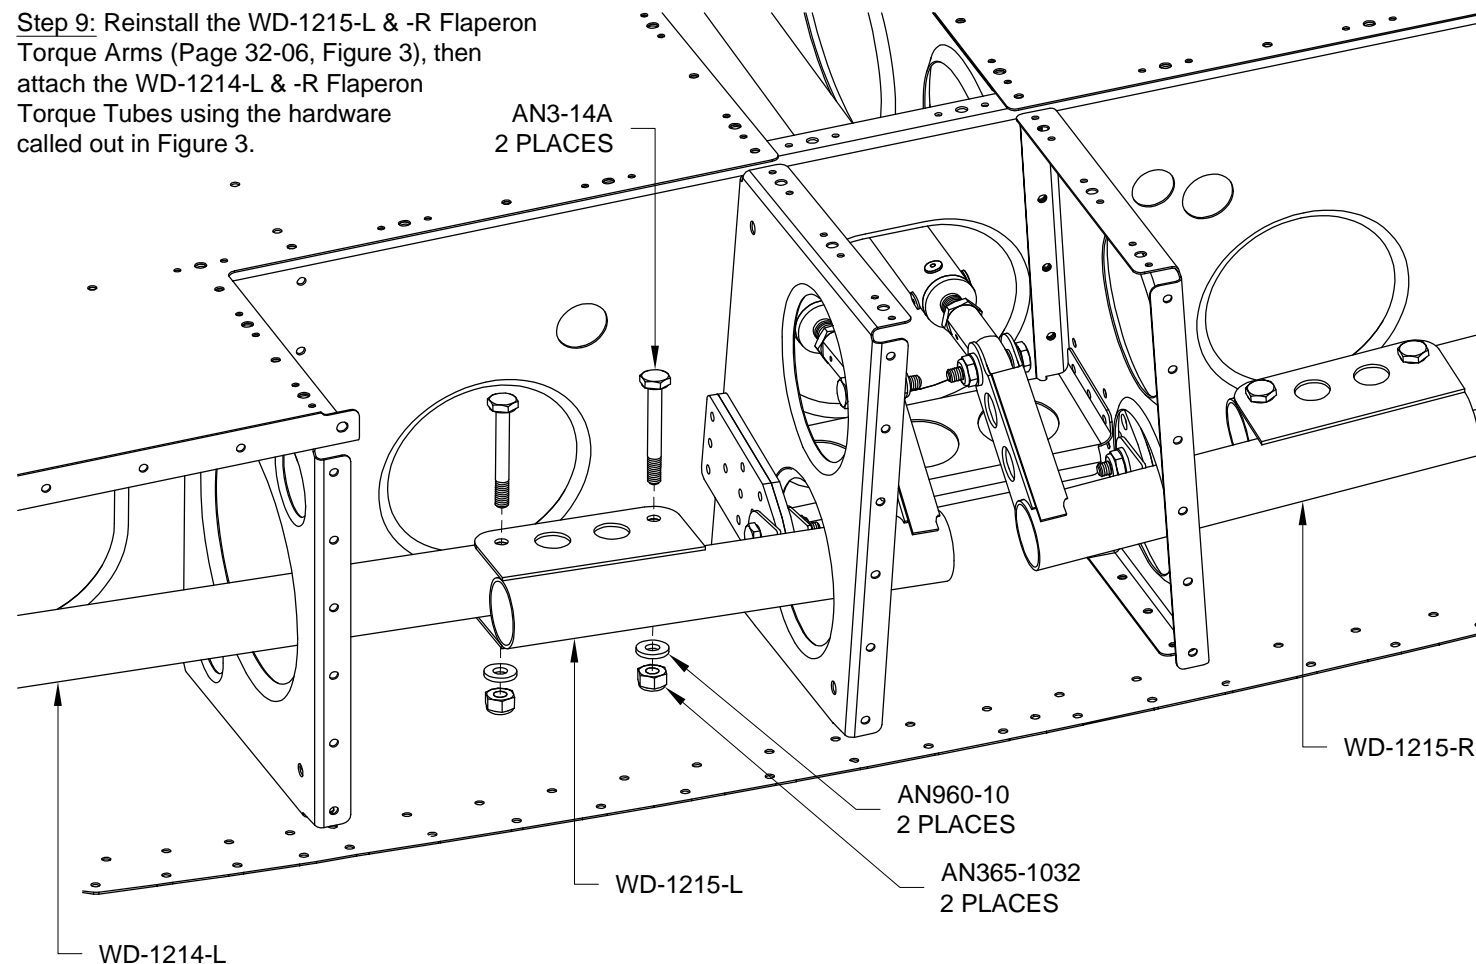

FIGURE 3: SECURING THE FLAPERON TORQUE TUBES
Step 9: Reinstall the WD-1215-L & -R Flaperon Torque Arms (Page 32-06, Figure 3), then attach the WD-1214-L & -R Flaperon Torque Tubes using the hardware called out in Figure 3.